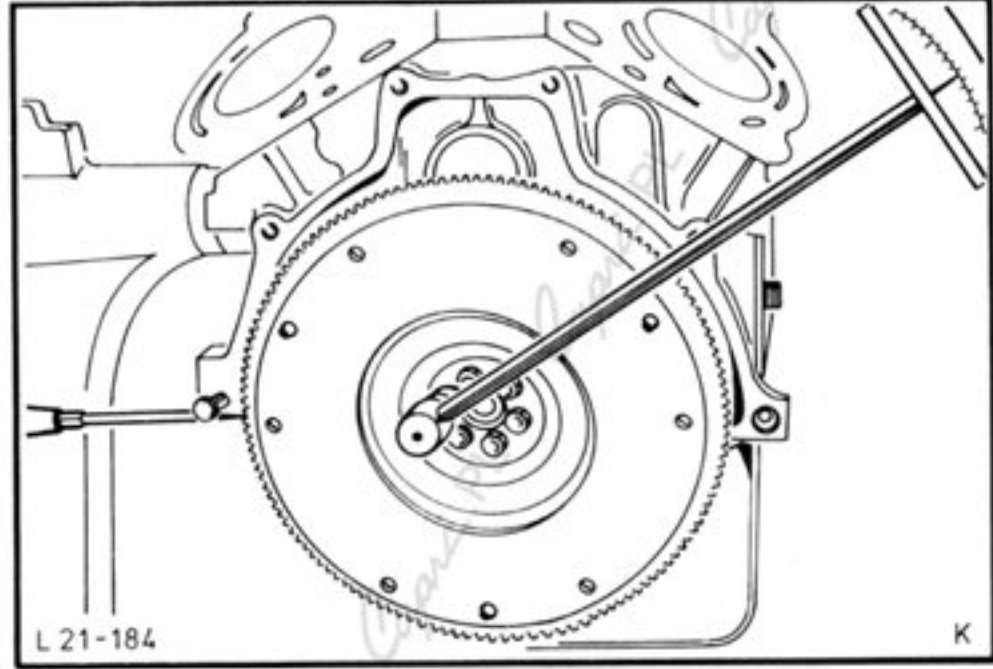

Fig.61. Refit flywheel.
51. Invert engine, position adaptor plate, fit flywheel and tighten bolts to specification, Fig.61.